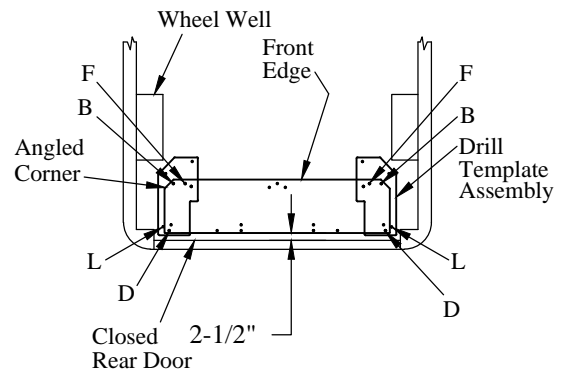

Figure 5: Drill template location (top view).
3. **Place** the drill template assembly in the rear of the van (Figure 5):
12. **Place** the drill template assembly (Figure 1) in the rear of the van (Figure 5):